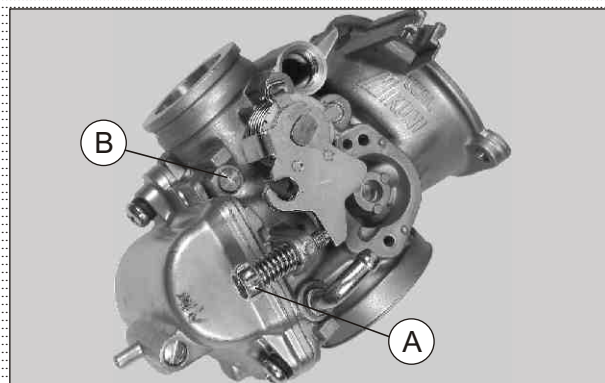

Fig. 4.21
- Loosen and remove idling screw (A) along with spring idling screw and packing idling screw. (Fig. 4.21)
- Remove mixture control screw (B) along with spring MCS, washer MCS and 'O' ring MCS. (Fig. 4.21)